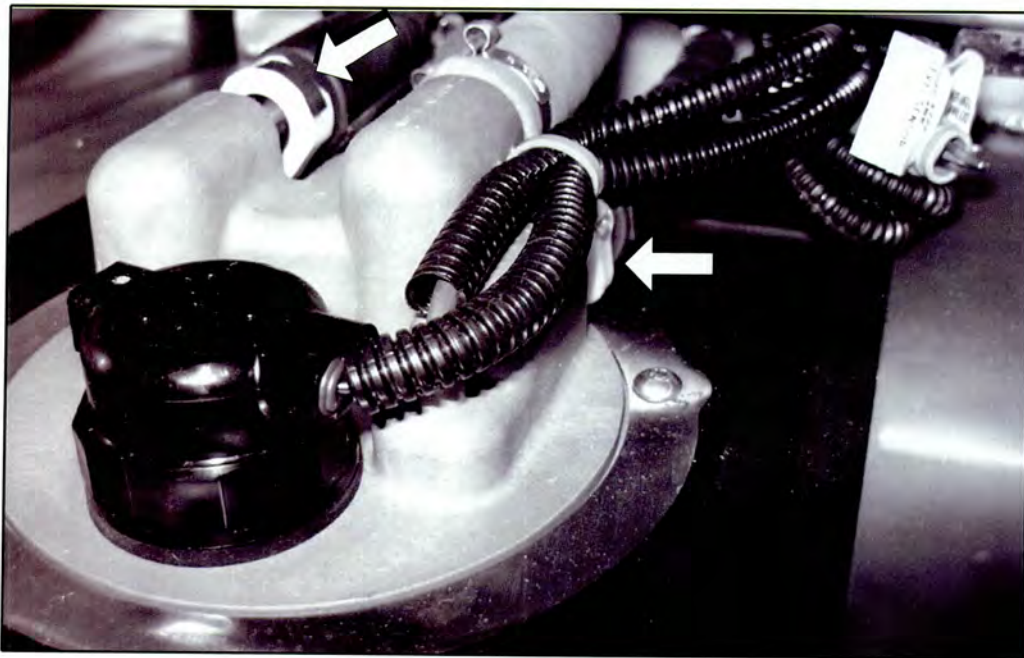

Figure 5.
9. Using a small pocket flathead screwdriver, carefully depress the two (2) black rectangle button (release prongs) shown in Figure 5 to release and remove the DEF suction and throttle hoses from the DEF head unit.